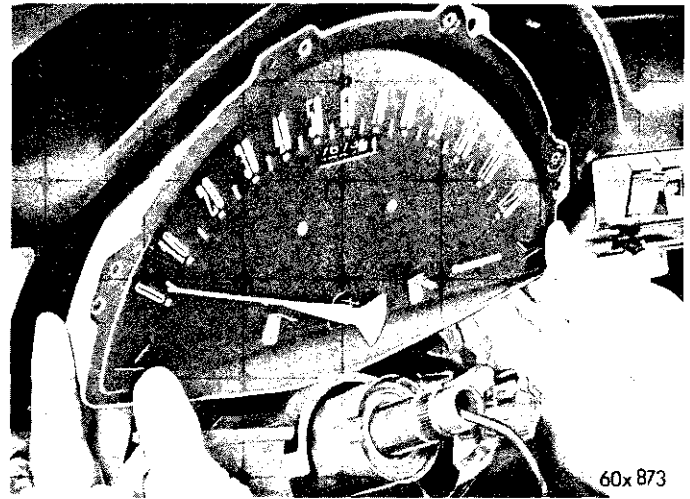

Fig. 78—Removing or Installing the Speedometer Head Assembly
namment lamp socket at the speedometer head, remove the four screws and remove the speedometer head assembly (Fig. 78).
(1) Install the speedometer head assembly (Fig. 78) and the four attaching screws.
(2) Connect the speedometer cable at the speedometer head and snap the center ornament lamp and socket into the opening at the back of the speedometer case.